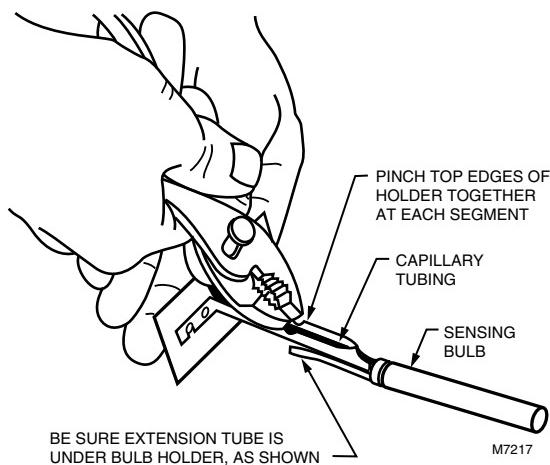

Fig. 9. Installing capillary in 107324A and 131524A Bulb Holders.
- Mount the bulb and capillary on the holder. See Fig. 9 through 11.
Use these bulb holders to mount one bulb in a duct or plenum. See Fig. 9 and 10. If necessary, shorten holders by using pliers to flex the channel at one of the notches until it separates.